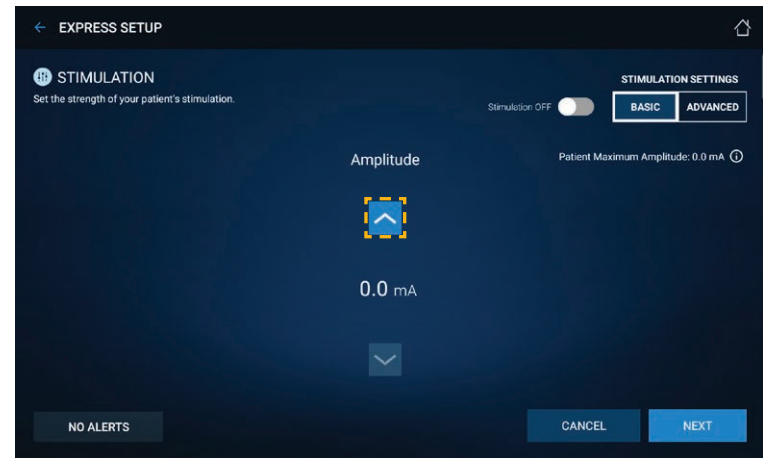

Figure 11. Express Setup: Basic Stimulation screen
1. Adjusting amplitude requires stimulation to be turned on. From the Basic Stimulation screen, tap the up arrow button (Figure 11) to turn on stimulation.